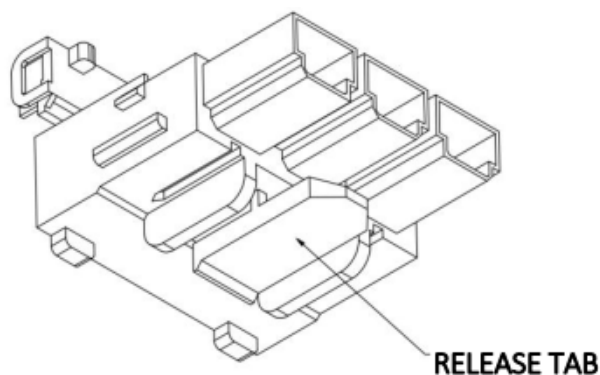
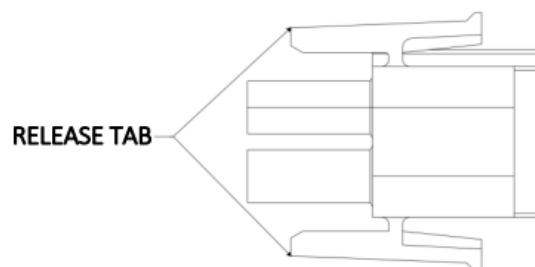

FIGURE 44 - Line Voltage Connector (3 Pin)
FIGURE 45 - Low Voltage Connector (6 Pin)
- 3) Disconnect low voltage (6 pin) & line voltage (3 pin) harness connectors by pressing on the release tabs and using a downward motion (FIGURE 44 - Line Voltage Connector (3 Pin) & FIGURE 45 - Low Voltage Connector (6 Pin)).